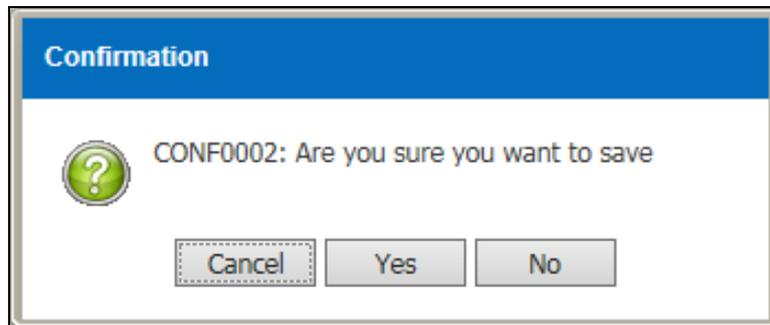

Figure 3.1.2-4 Save record
- Click on the  button in Figure 3.1.2-4.
- Click on the  button in Figure 3.1.2-5.